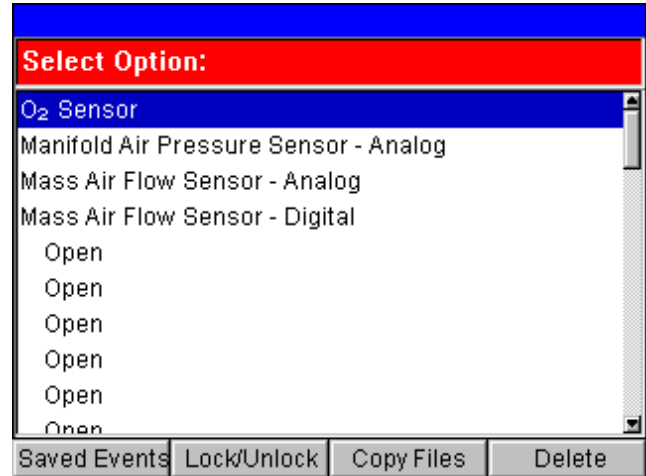

Figure 15.4: Ideal Waveform Load Screen
- 2 Press the **Ref. Library** function key. This displays another Load screen that lists the saved ideal waveforms (Figure 15.4).